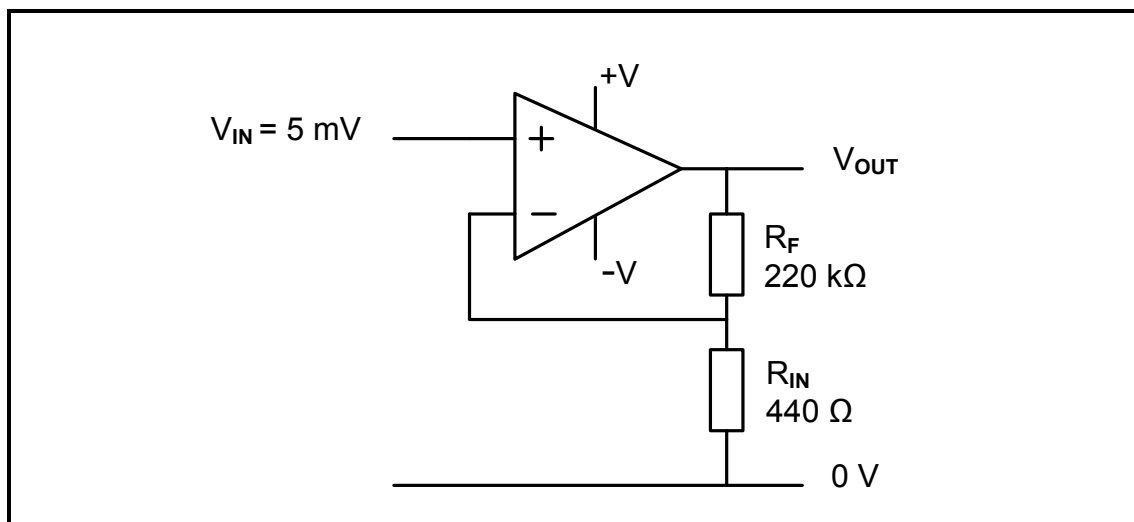

FIGURE 3.5: OP AMP
- 3.5 Calculate the output voltage of the op amp in FIGURE 3.5 below.